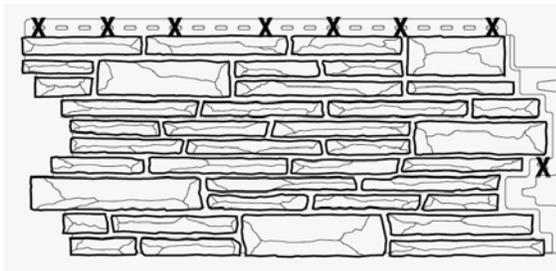

Figure 4
**STEP FIVE** Drive a fastener straight through the substrate while ensuring that the head only makes light contact with the panel. This allows the panel to move with varying temperatures. The panel requires a minimum of eight (8) fasteners per panel (figure 4). For high velocity wind areas, a fastener is required in each nailing slot.